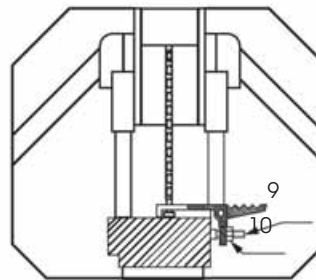

Fig. 5
- 1a) Loosen hexagonal nut, item 10, Fig. 5 (134) and turn screw, item 9, Fig. 5 (133) anticlockwise a little.